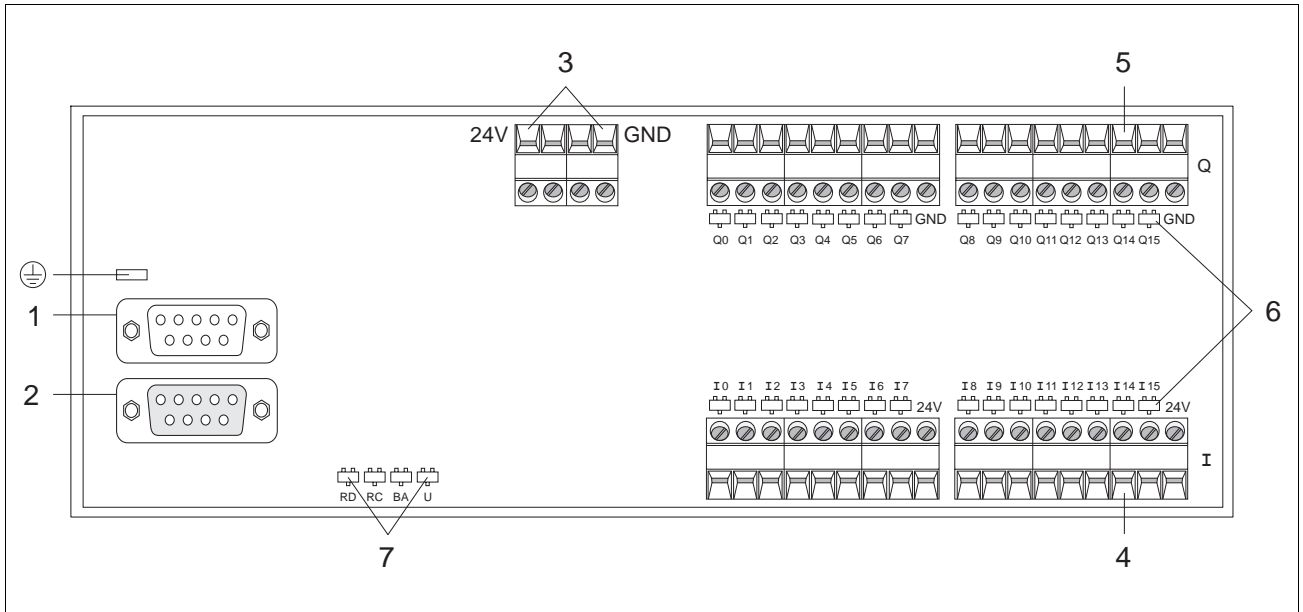

Fig. 1 MP 926 input/output card
**Purpose** The MP 926 input/output card (fig. 1) is provided with 16 inputs and 16 outputs which can be addressed from a BERGER LAHR series 300 positioning unit with RS 485 HS interface or from a controller with Interbus-S master interface.